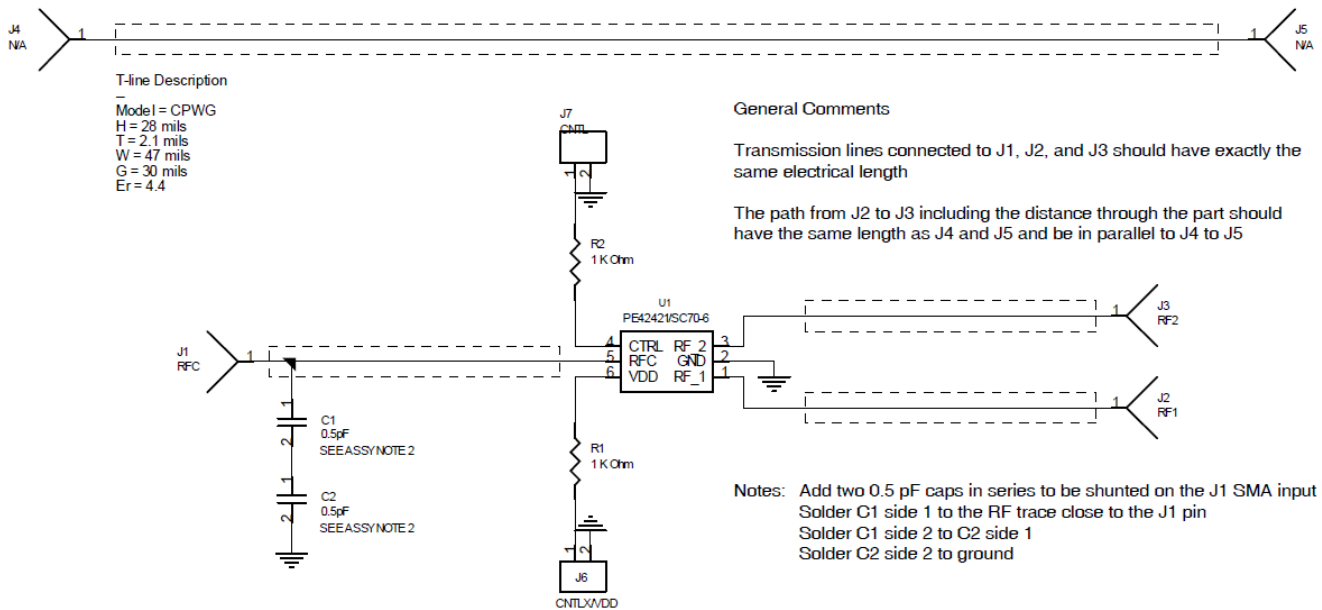

Figure 12. Evaluation board schematic (pSemi part number 102-0756-01)
2. To optimize the insertion loss and return loss performance, add a tuning capacitor to the application board, as shown in Figure 12.